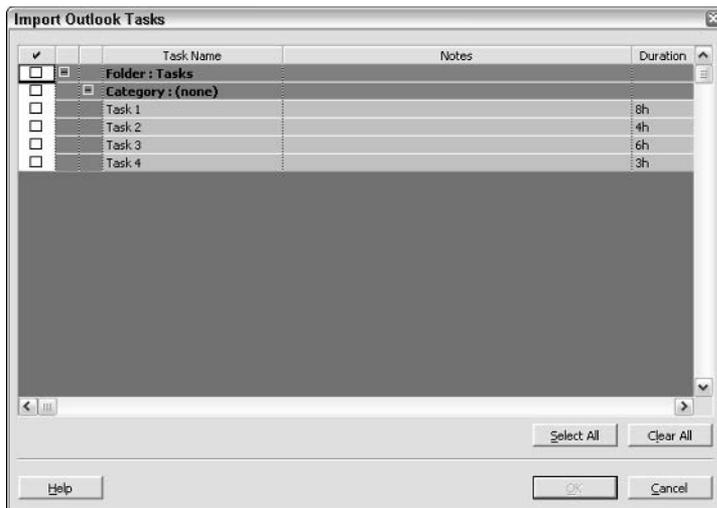

Figure 26-26: In this dialog box, mark the tasks that you want to import into Project.
1. In Project, choose Tools⇒Import Outlook Tasks. Project displays the Import Outlook Tasks dialog box, as shown in Figure 26-26.